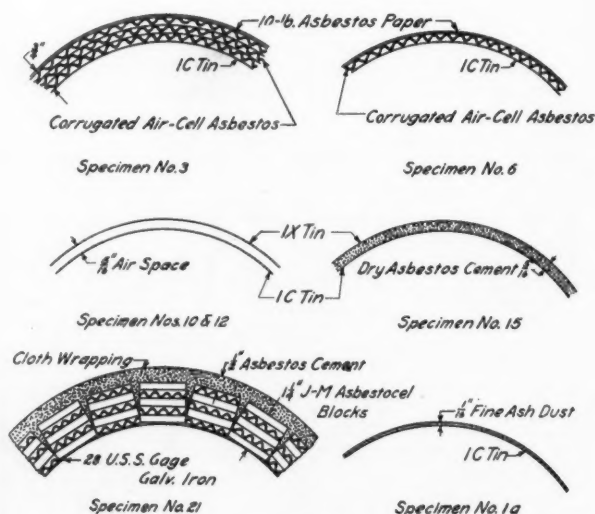

Fig. 4—Sections showing construction of some of the complex surface coverings. (See Table 1, Part D, insulating materials.)
(9) Proper insulation of warm air ducts and stacks require the equivalent of at least 1/4 in. of good insulation.
(10) The use of 1 1/4 in. thickness of asbestocel blocks covered with 1/2 in. of asbestos cement and a cheesecloth wrapper will reduce the heat loss to approximately one fourth the value of an uninsulated bright tin duct. (See Drum number 21 and Fig. 4.)
(11) Insulating materials are available which will reduce the heat loss approximately one-half. (See Drums listed under section b, in Table 1-D. See also Fig. 4.)